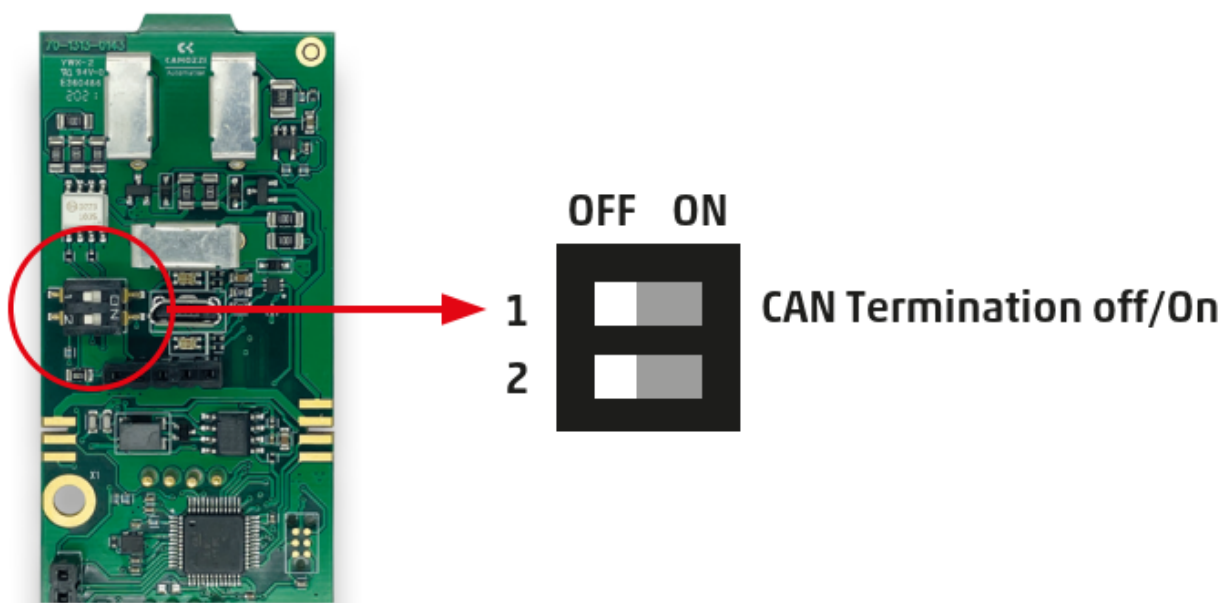

Figure 5.1: Switch to enable the CANopen termination resistor
If the device is the last node of the network, you must enable the termination resistor of the communication line by using the switch on the head module under the plastic cover (see figure 5.1).
- Network termination: the nodes at the ends of the network must have the terminating resistor enabled (see figure 5.1), in the example of the double acting positioner, the network consists of only two nodes. Therefore it must be enabled on both.